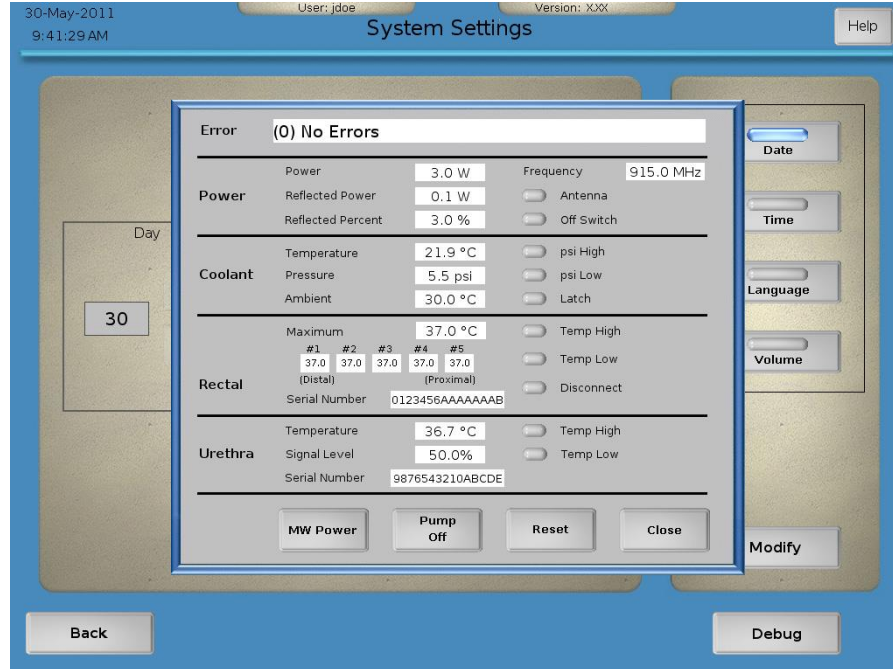

Figure 3-53. Example of a Debug screen
4. Press the **Debug** button to display the Debug Panel. This panel provides a method to display current measurements of the control unit and disposable components (Figure 3-53).